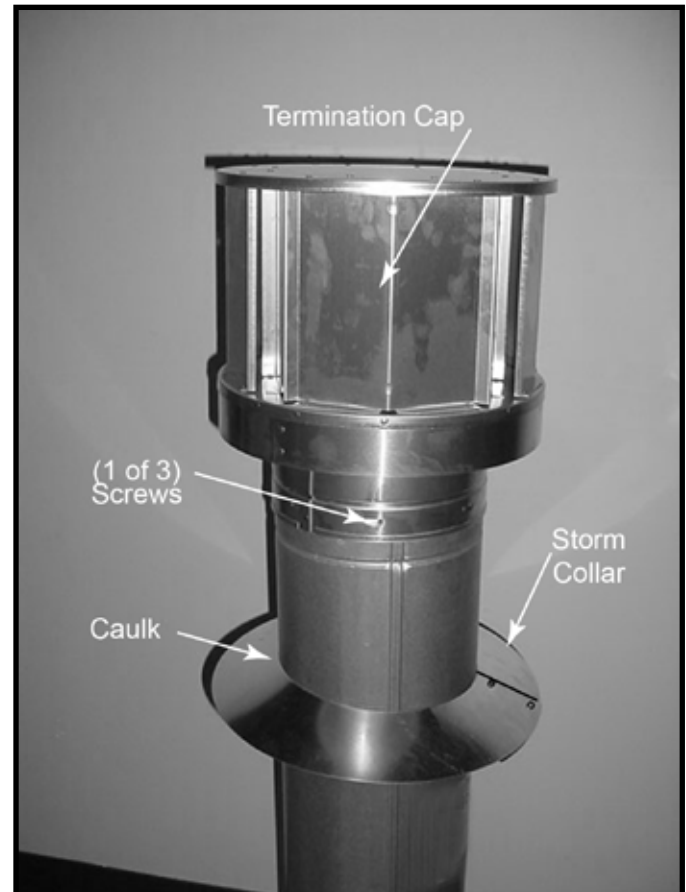

Figure 7.14
- Caulk around the top of the storm collar. See Figure 7.14.
- Secure the cap by driving three self-tapping screws (supplied) through the pilot holes in the outer collar of the cap into the outer flue of the pipe (see Figure 7.14).